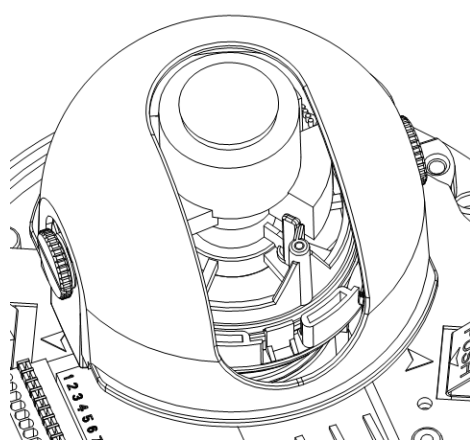

Figure 2-6
a) For the IR series product, you can skip current step and go the step b) directly. For the non-IR series product, push the port slightly to remove the decoration enclosure from the black plastic enclosure. See Figure 2-6.